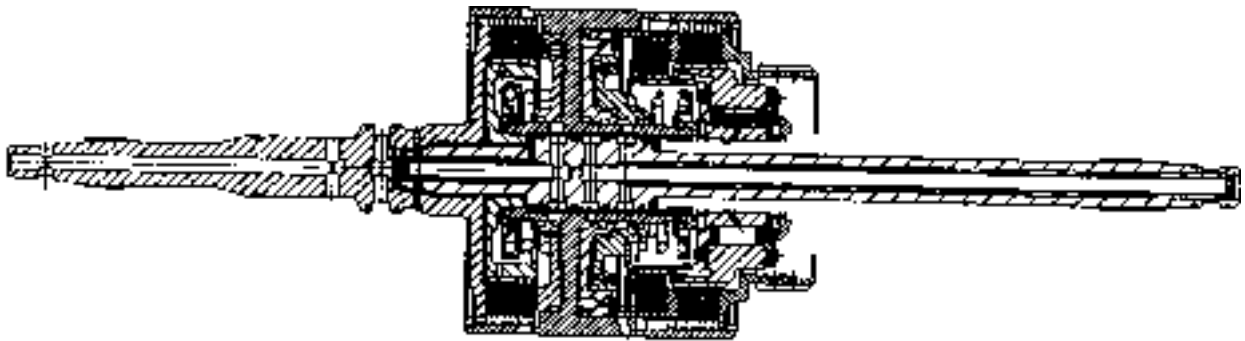

Figure 8.32 - C1, C4 and C2 Clutch
37. Install the C3 hub and secure it with the circlip, ensuring that the circlip is firmly seated in its groove. Refer to figure 8.32.
12. Assemble the C1/C2/C4 clutch assembly to the C3 clutch and sun gear assembly. Refer to figures 8.32 and 8.33.